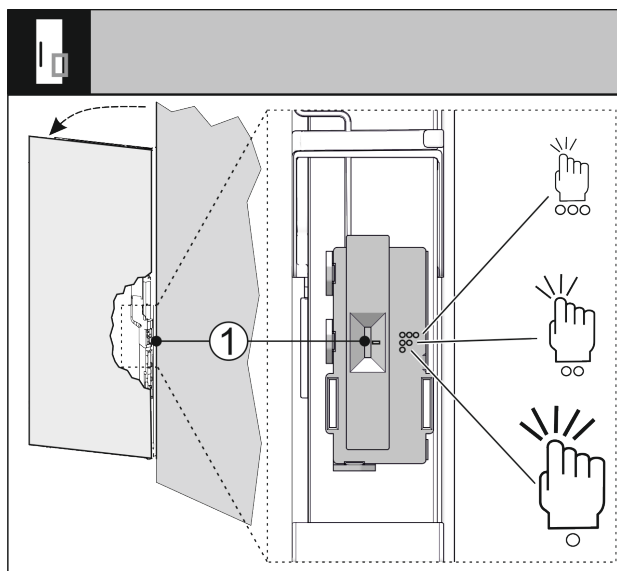

Fig. 32
You can use a switch Fig. 32 (1) to adjust the sensitivity of the knocking sensor. The switch is on the bottom third of the door on the hinge side.
- Move the switch Fig. 32 (1) to the required switch position.